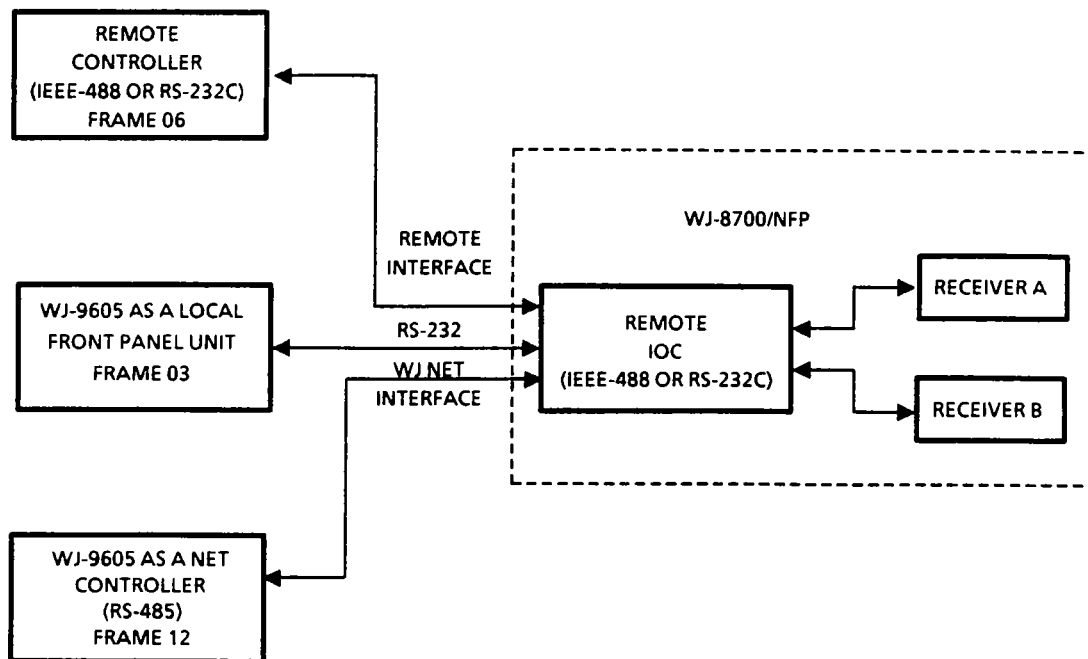

Figure 2-4. Example of IOC Routed Operations
Control of frame devices by a resident FPU is only a single example of an IOC routed operation. **Figure 2-4** shows three additional types of routed operations as follows:
All three of the IOC routed interfaces shown in **Figure 2-4** could be configured simultaneously; however, only one of the three possible controlling devices could have control of a resident device at any given time. A governing protocol determines the order of precedence that establishes how each controlling device gains or relinquishes control of a device.
1. A Front Panel Unit (FPU) attempts to take control of Receiver A by sending a token request. In the example shown in **Figure 2-4**, the local FPU would request a token of 03, which is the local FPU's frame number.
3. If Receiver A is not in use, it will respond to the token request with "TOKEN 03," which informs the local FPU that it now has control of Receiver A. Note that Receiver B is available for control by either the remote front panel or one of the two external controllers shown in Figure 2-4.